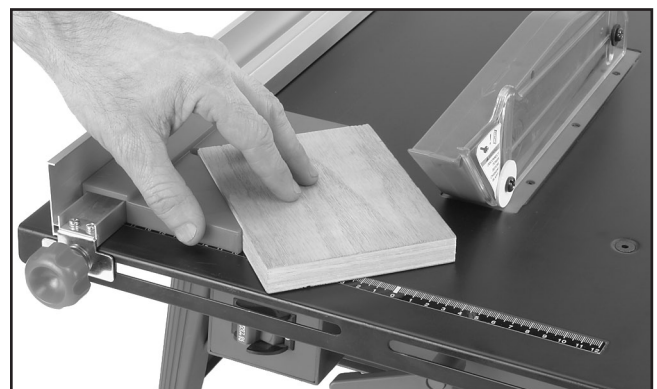

Figure 15. Typical 45° miter cut.
7. Place a corner of the workpiece into the miter sled as shown in **Figure 15**.